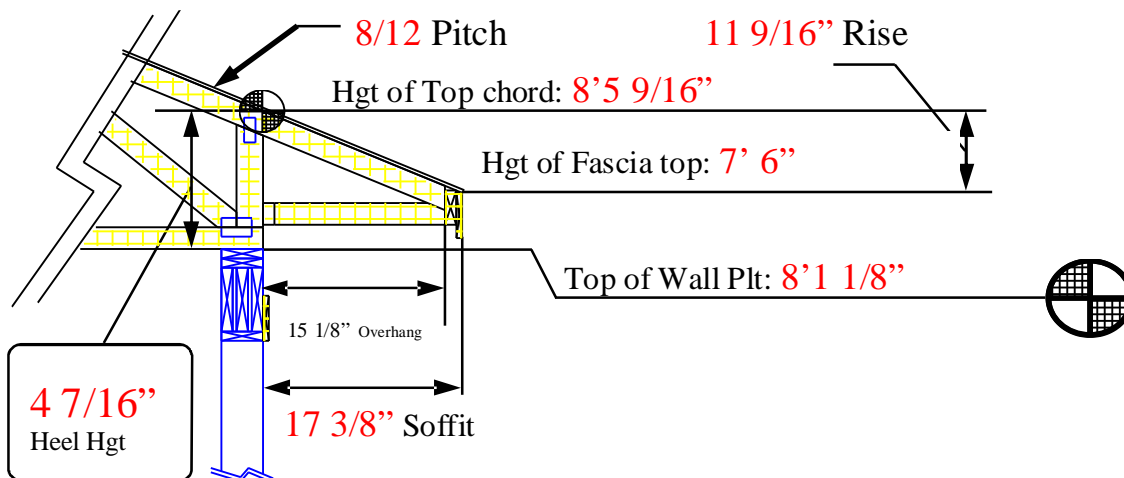

Fig. 3-16
2) Your starting point for the 8/12 will be “Top of Wall Plt”. See Fig. 3-16 for, “Match Soffit hgt of differing pitch worksheet”
(All numbers in RED are displayed in Fig. 3-16)